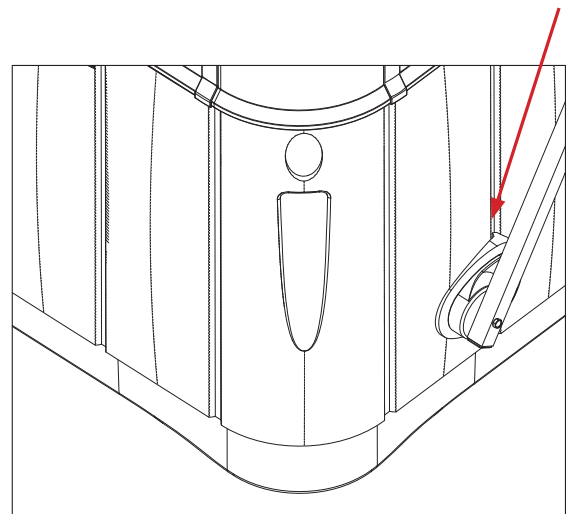

Figure 2.4
**Important:** Make sure that the Spacer (T1) back end fits into the vertical groove on side panel as shown(Figure 2.4).